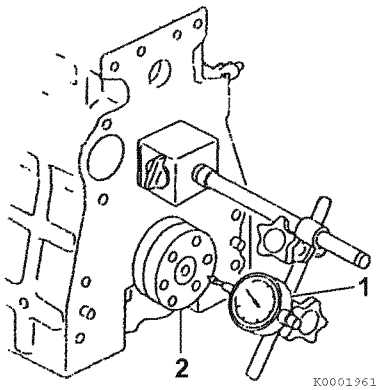

Figure 6-59
- **Method A:** Install a dial gauge (**Figure 6-59, (1)**) on the cylinder block. Move the crankshaft (**Figure 6-59, (2)**) in and out to measure the end play. Record the measurement.